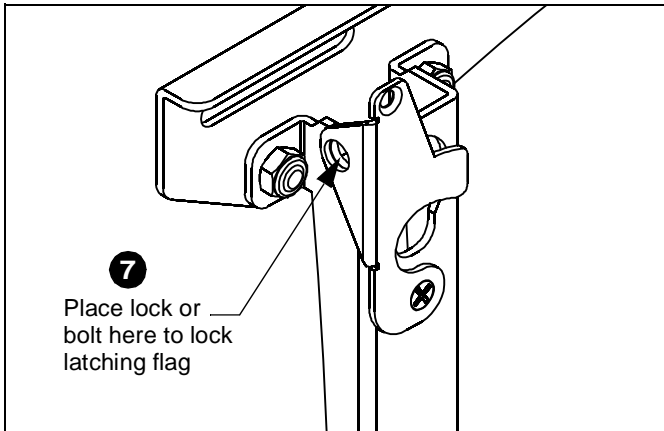

Figure 7
- 7. **OPTIONAL:** Lock the latching flags with a padlock or bolt, if required. (See Figure 7)